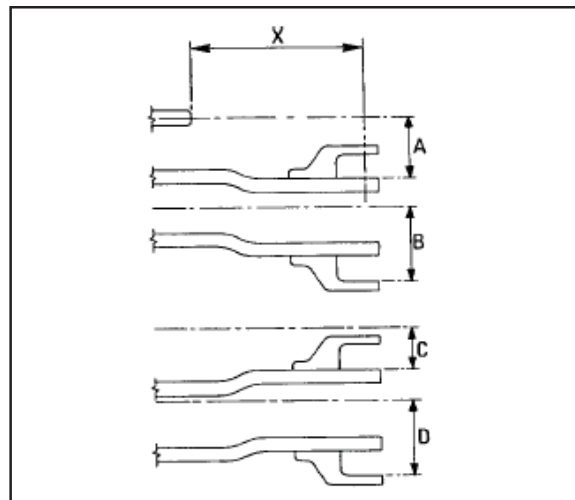

Fig. 73
The drawbar can swing or can be held at fixed positions by relocating the stop pins in the drawbar support frame. The drawbar can be inverted and the clevis attachment bolted on either side to suit pick up points of various implements (Fig. 73). There are three length positions for the drawbar.
To adjust the drawbar height ( Fig. 73) proceed as follows:
2. Remove the clevis and reposition in one of the positions shown, (Fig. 73), the dimensions from the center of the PTO shaft are given in Table 2. Tighten the bolts to a torque of 230 Nm (170 lb.ft).